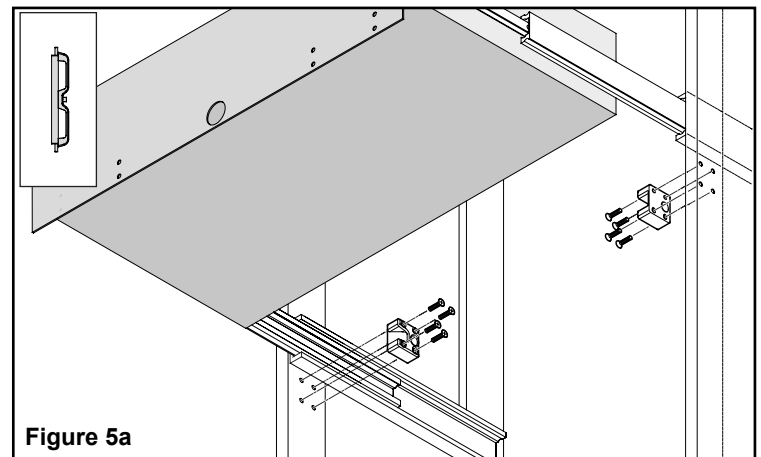

Figure 5a
2. Install lock blocks. Fasteners are chosen based on cabinet/case material. (**Figure 5a**)